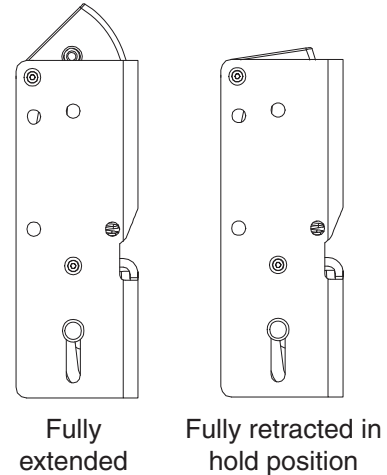

Figure 10-1
- b. Set top latch in fully retracted (hold) position (Figure 10-1).